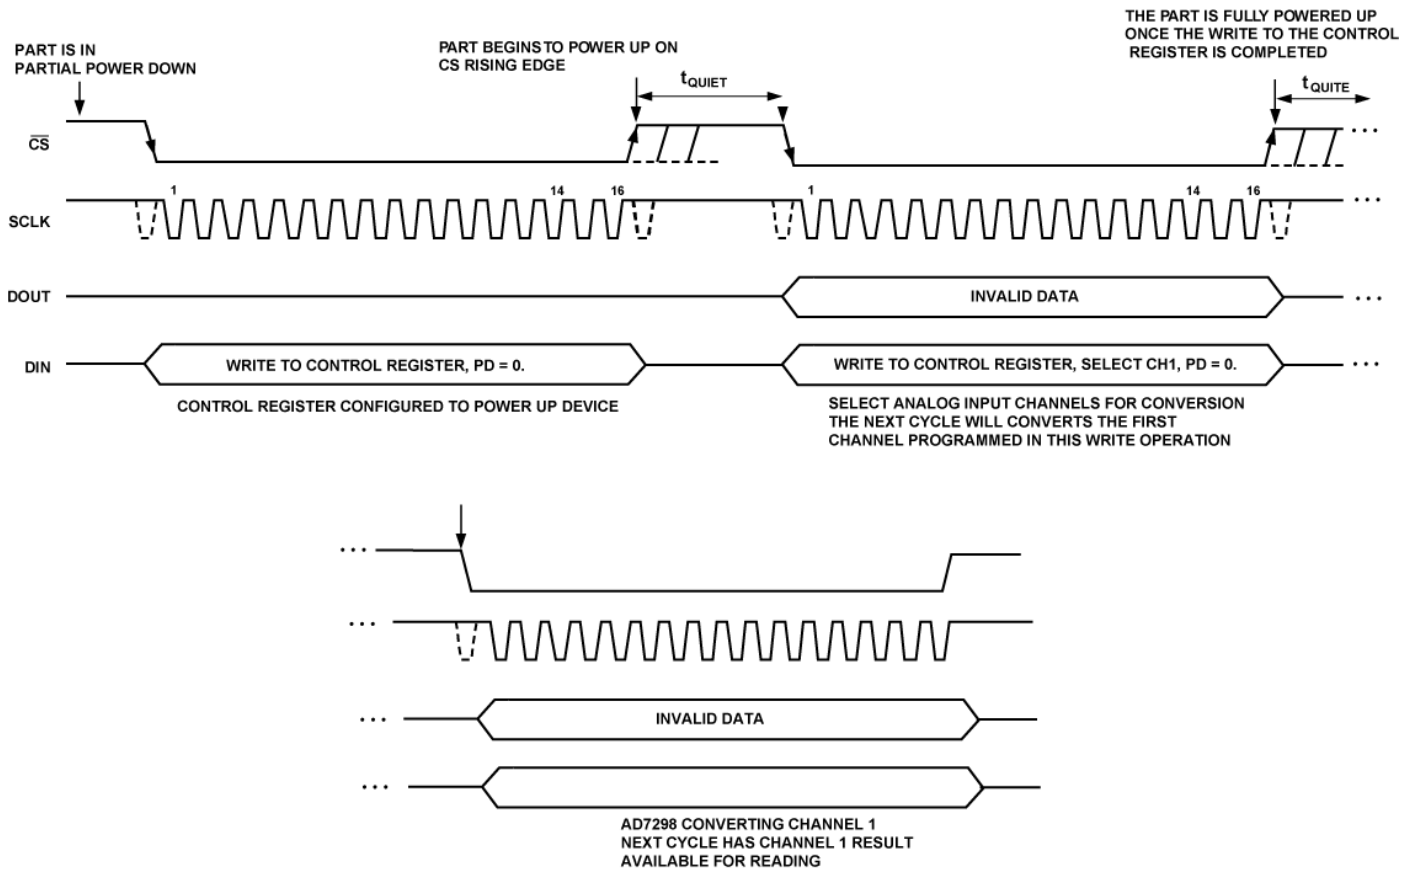

Figure 7. Partial Power Down Mode of Operation
The AD7298 remains in partial power-down until the power-down bit, PD, in the control register is changed to a logic level zero (0). The AD7298 begins powering up on the rising edge of \overline{CS} following the write to the control register disabling the power-down bit. Once T_{QUIT} has elapsed, a full 16-SCLK write to the control register must be completed to update its content with the desired channel configuration for the subsequent conversion. A valid conversion is then initiated on the next \overline{CS} falling edge. Since the AD7298 has once cycle latency, the first conversion result after exiting partial power-down mode is available in the fourth serial transfer as shown in Figure 7; 1st cycle to update PD bit, 2nd cycle to update configuration and Channel ID bits, 3rd to complete conversion, 4th access D_{OUT} valid result. The use of this mode enables a reduction in the overall power consumption of the device.